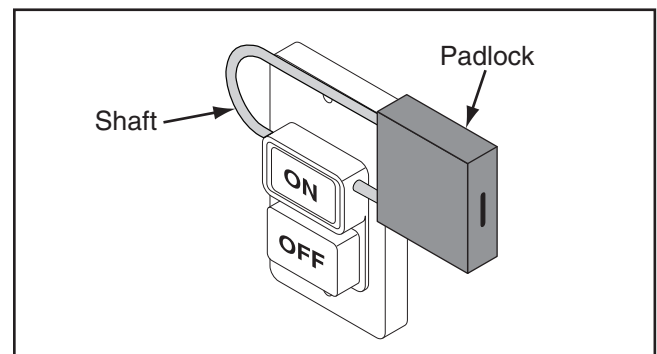

Figure 21. Switch disabling padlock inserted into ON button.
4. Insert disabling pin or padlock through switch button (see **Figure 21**).